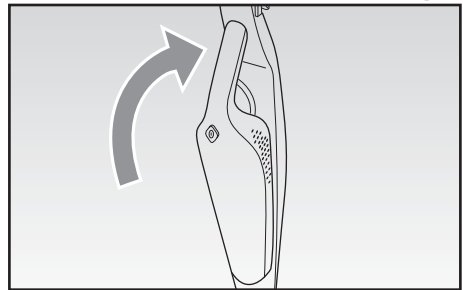

Fig. 6
- For positioning the handheld vacuum cleaner back into the appliance body (M), remove the installed attachment first, by removing it outward and then position the end of the dust container (F) in the lower side of the apposite housing in the appliance body (M) and slightly push backward the handheld vacuum cleaner until it clicks into place (Fig. 6).